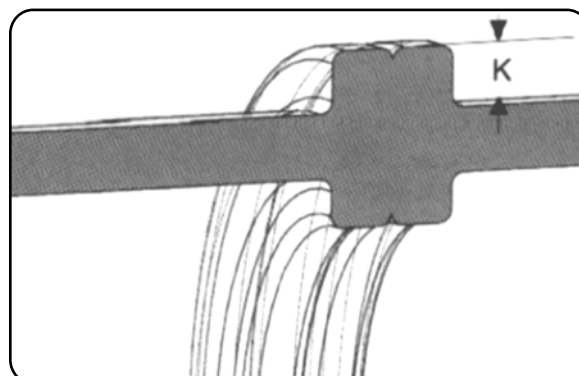

Figure 6: Cross section of beads
The joining pressure ( $P_3$ -interfaced pressure) has to be kept during the cooling time. After process, a regular double bead must appear. The bead size shows the regularity of welding. Different beads could be caused by different MFR (melt flow rate) of the pipes.  $K$  must always be larger than 0 (see figure 6). Minimum time ( $T_5$ ) for this phase is given at Table 1, column 5.
19. After joining with pressure  $0.15 \text{ N/mm}^2$ , a bead must exist. According figure 6, K has to be  $> 0$  on every section